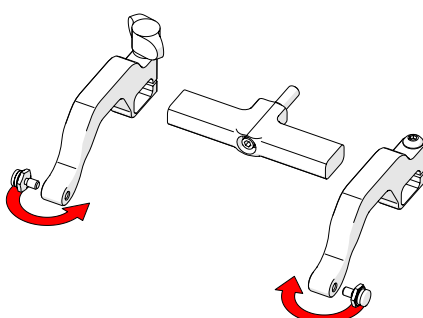

Fig. 121 - Position pivot buttons
5. Position the pivot buttons to the inside of the probe holder arms (Fig. 121).